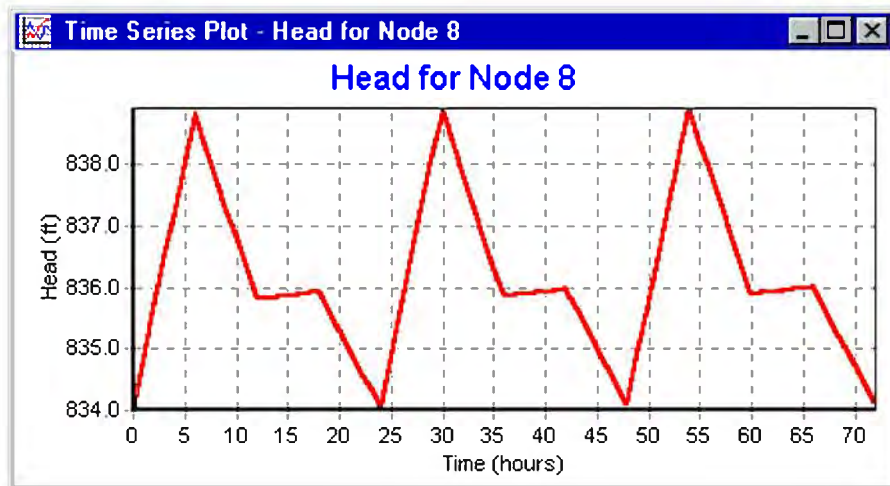

Figura 2.10 Ezemplu Time Series Plot
- Hare didiak hahalok periodu nian iha elevasaun bec ba tangki husi tempu ba tempu (Figura 2.10).